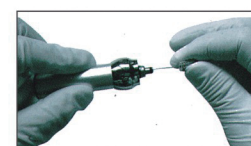
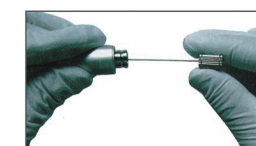
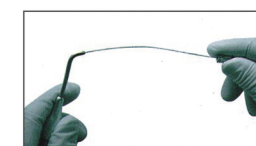

Fig.6
Fig.7
Fig.8
(2) Powder case is clogged.	Insert the cleaning wire into the hole in the center of the nozzle joint section at the way until it stops in the hole. If this does not cure the problem, clean the powder case body in the boiling water for 10 minutes. Dry it thoroughly.(Fig.6)
(2) Water invaded into the drive air passage.	Change the O-ring at the coupling end of the powder case. Check the quality of drive air. Drain the air filter and air compressor.
(3) Air passage is partially blocked by the powder solidified by water.	Remove the nozzle. Clean the nozzle, powder case with the supplied wire.(fig.6,fig.7 and fig.8)